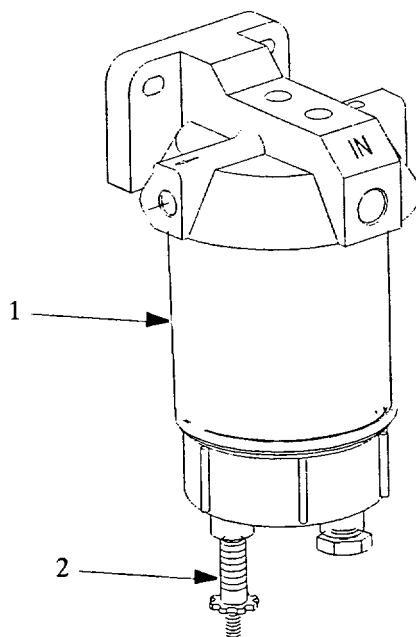

Figure 3-3.1 Filter Separator Servicing (Model 350 PAFN).
- b. On Model 350 PAFN, open drain valve (2, Figure 3-3.1) and drain water separator until clean fuel is observed. When clean fuel is observed, close drain valve.